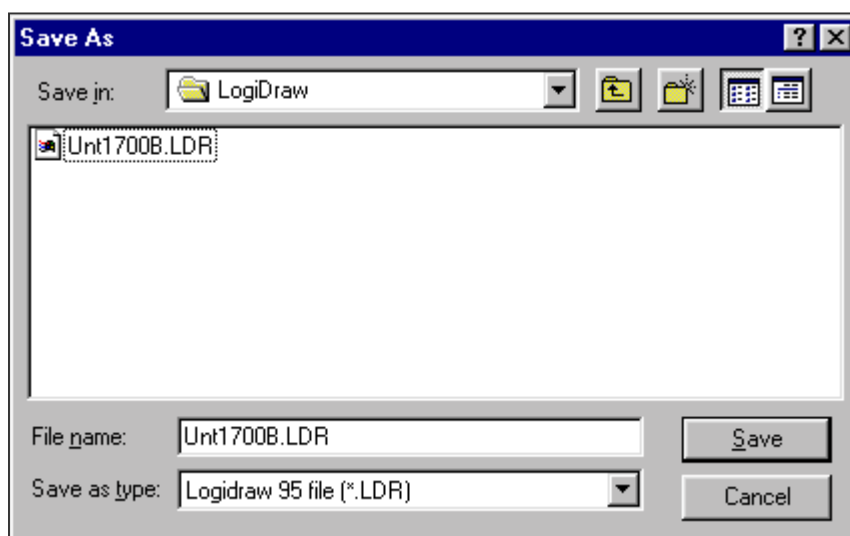

Figure 3 Logidraw Save As dialog
2. The dialogue box which opens (see Figure 3) allows the definition of a file name. The extension '.LDR' may be specified. If no extension is included then the program will add the '.LDR' extension automatically.